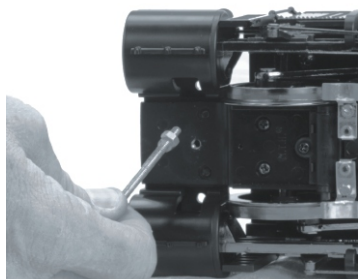

Figure 17
4. Remove the anchor stud near the drawbar pin from the tender chassis As shown in Fig. 17.